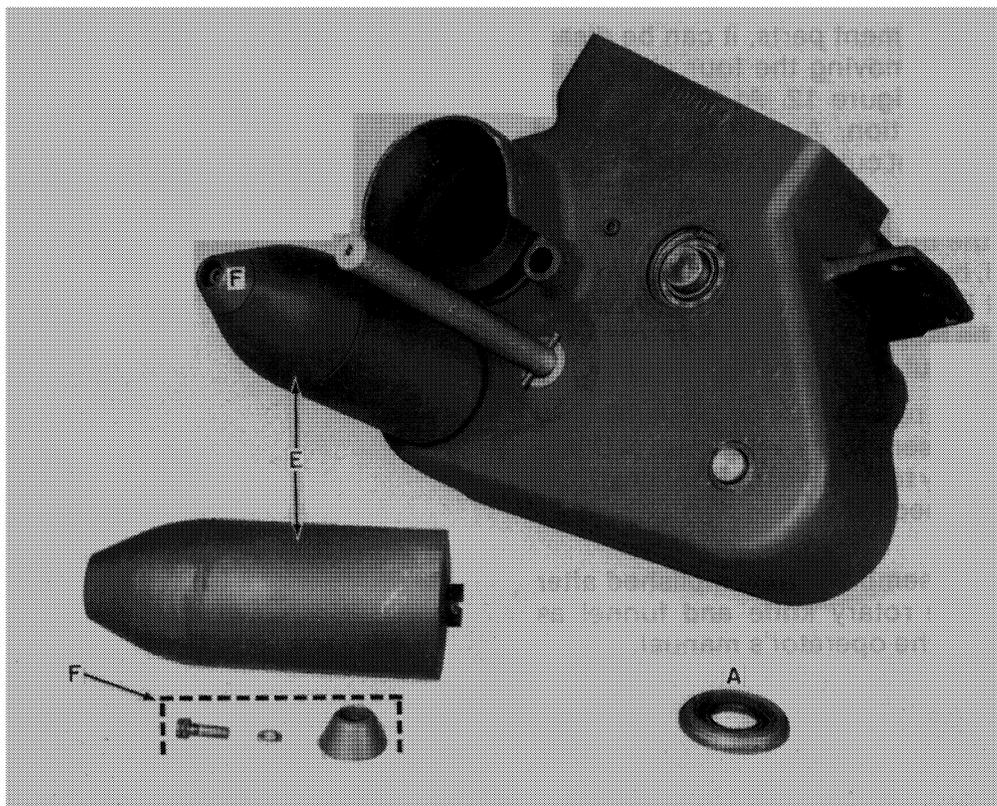
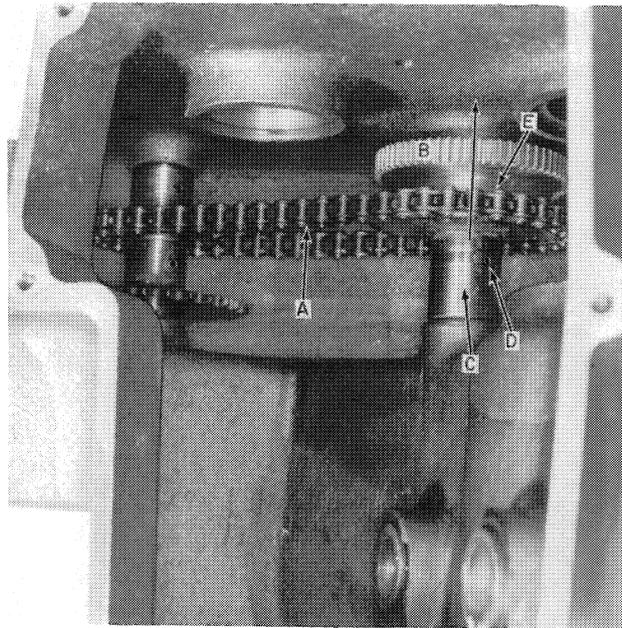

FIGURE 15
FIGURE 16
13. Remove the nip rolls, E, Figure 15, after removing the screw, washer and cone, F, from the nip roll shaft. Both nip rolls can be removed at this time.
14. Remove the nip roll drive chain, A, Figure 16, by disconnecting it at its master link.
15. Remove the straight cut gear, B, and sprocket, C, by removing the friction pins at D and E, Figure 16. After the friction pins at D and E are removed, slide the nip roll shaft in the direction indicated by the arrow in Figure 16. **NOTE: Keep the shim packs at C, Figure 15, with each nip roll shaft, A.**